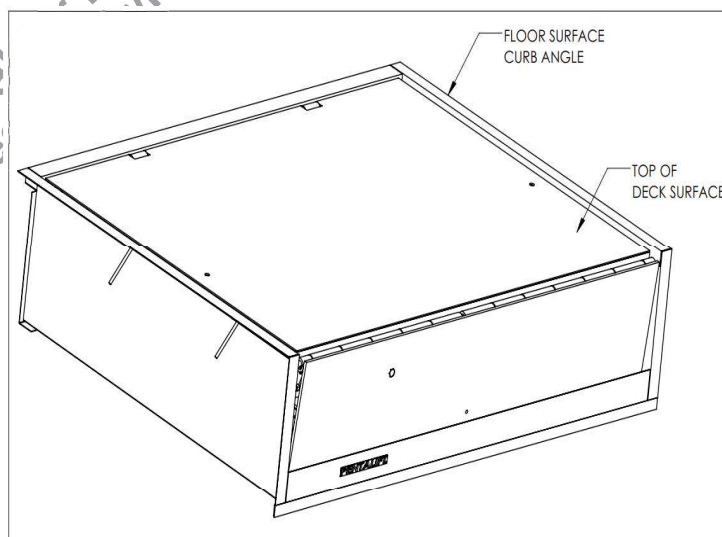
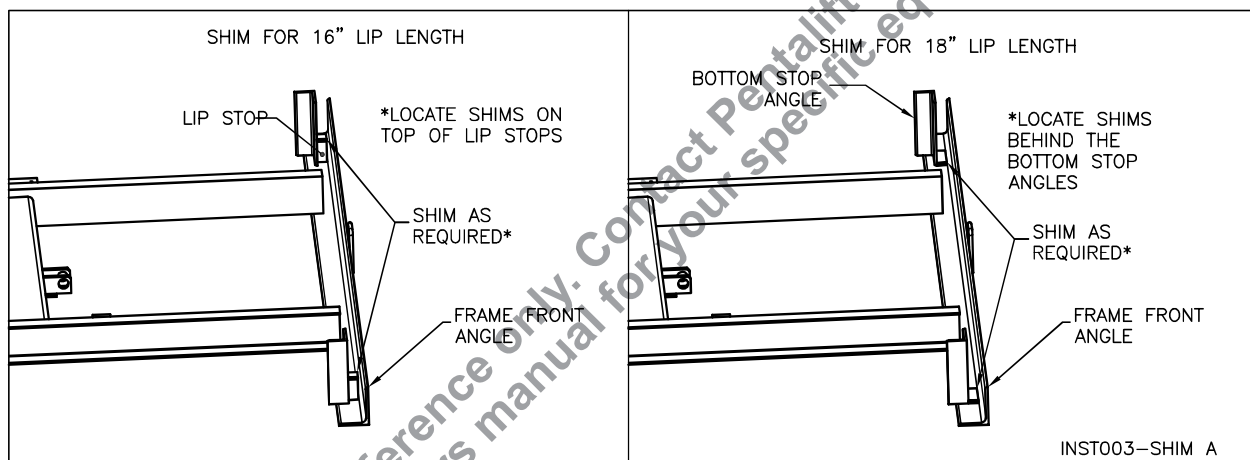
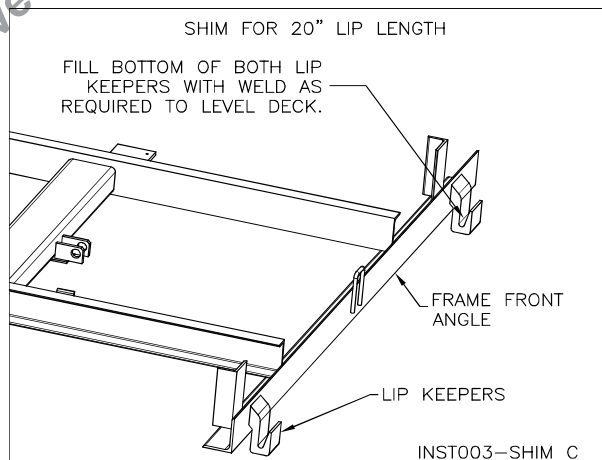

Figure 35: Deck Alignment
Figure 36: Shimming 16” & 18” Lips
Figure36A: Shimming 20” Lips
16. __ For any model of mechanical dock leveler, review the position of the top edge dock leveler deck relative to the top of the curb angle (See “Figure 35: Deck Alignment” on page 34). If the deck is too low in relation to the installation requirements, shim the dock leveler using steel shim(s) on both sides as indicated in “Figure 36: Shimming 16” & 18” Lips” and in “Figure36A: Shimming 20” Lips” on page 35.